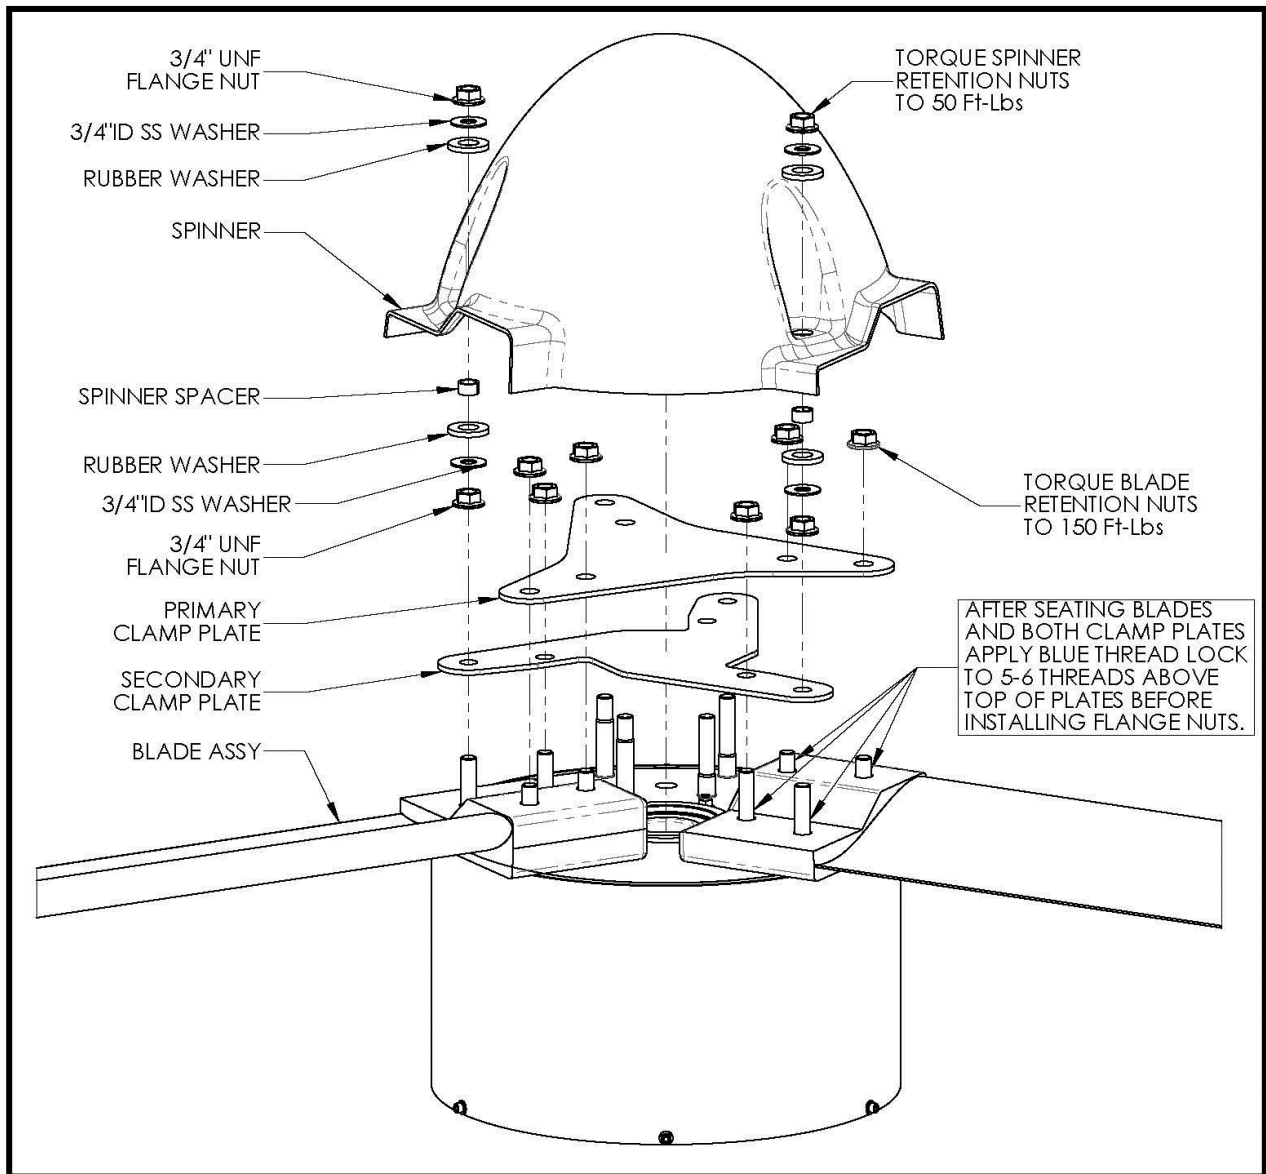

Figure 17: EXCEL Blade, Clamp Plate and Spinner Attachment
3. Attach the three blades to the powerhead as show in **Figure 17** with the hardware provided in the Blade and Spinner Hardware Kit.
5. Attach the spinner to the powerhead as shown in **Figure 17**, making sure that all hardware is ordered and positioned properly. The recommended procedure is as follows:
- a. Pre-assemble a stainless washer, rubber washer and spacer in proper configuration (shown in **Figure 17**), fastened together with a small amount of silicone caulk. **Be sure the spacer is *inside* the rubber washer and against the stainless washer.** Be sure the inner diameters of the stainless washer and spacer are properly aligned. Do this ahead of time for three separate assemblies, and use these assemblies when you are ready to attach the spinner.